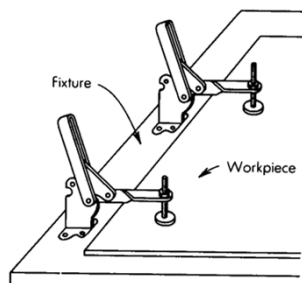

Figure 10-17. Typical clamp installation with the fixture supporting the workpiece directly beneath the clamps.
- For higher production, a quicker locating method is needed. A locating land may be incorporated in the fixture to accurately establish the edge position of the part to be welded (Figure 10-17).